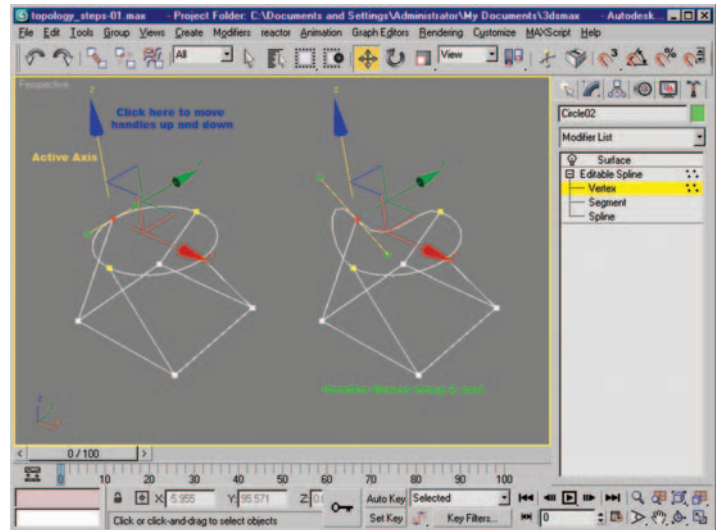

Figure 2.6 Active axis Z. Directional arrow moves the handles along the Z-axis.
arrows (axis handles in the manual) on the Transform gizmo, you can toggle the direction in which the Bezier point and handle are going to travel. Clicking on the up-facing arrow will give you up and down control over the handle, clicking the front-to-back arrow will give you control front to back, and of course, clicking the left-to-right arrow will give you control in the corresponding direction. Figure 2.6 shows the gizmo with the Z-axis activated. Handles will move only in a direction that corresponds to the selected axis (Z).